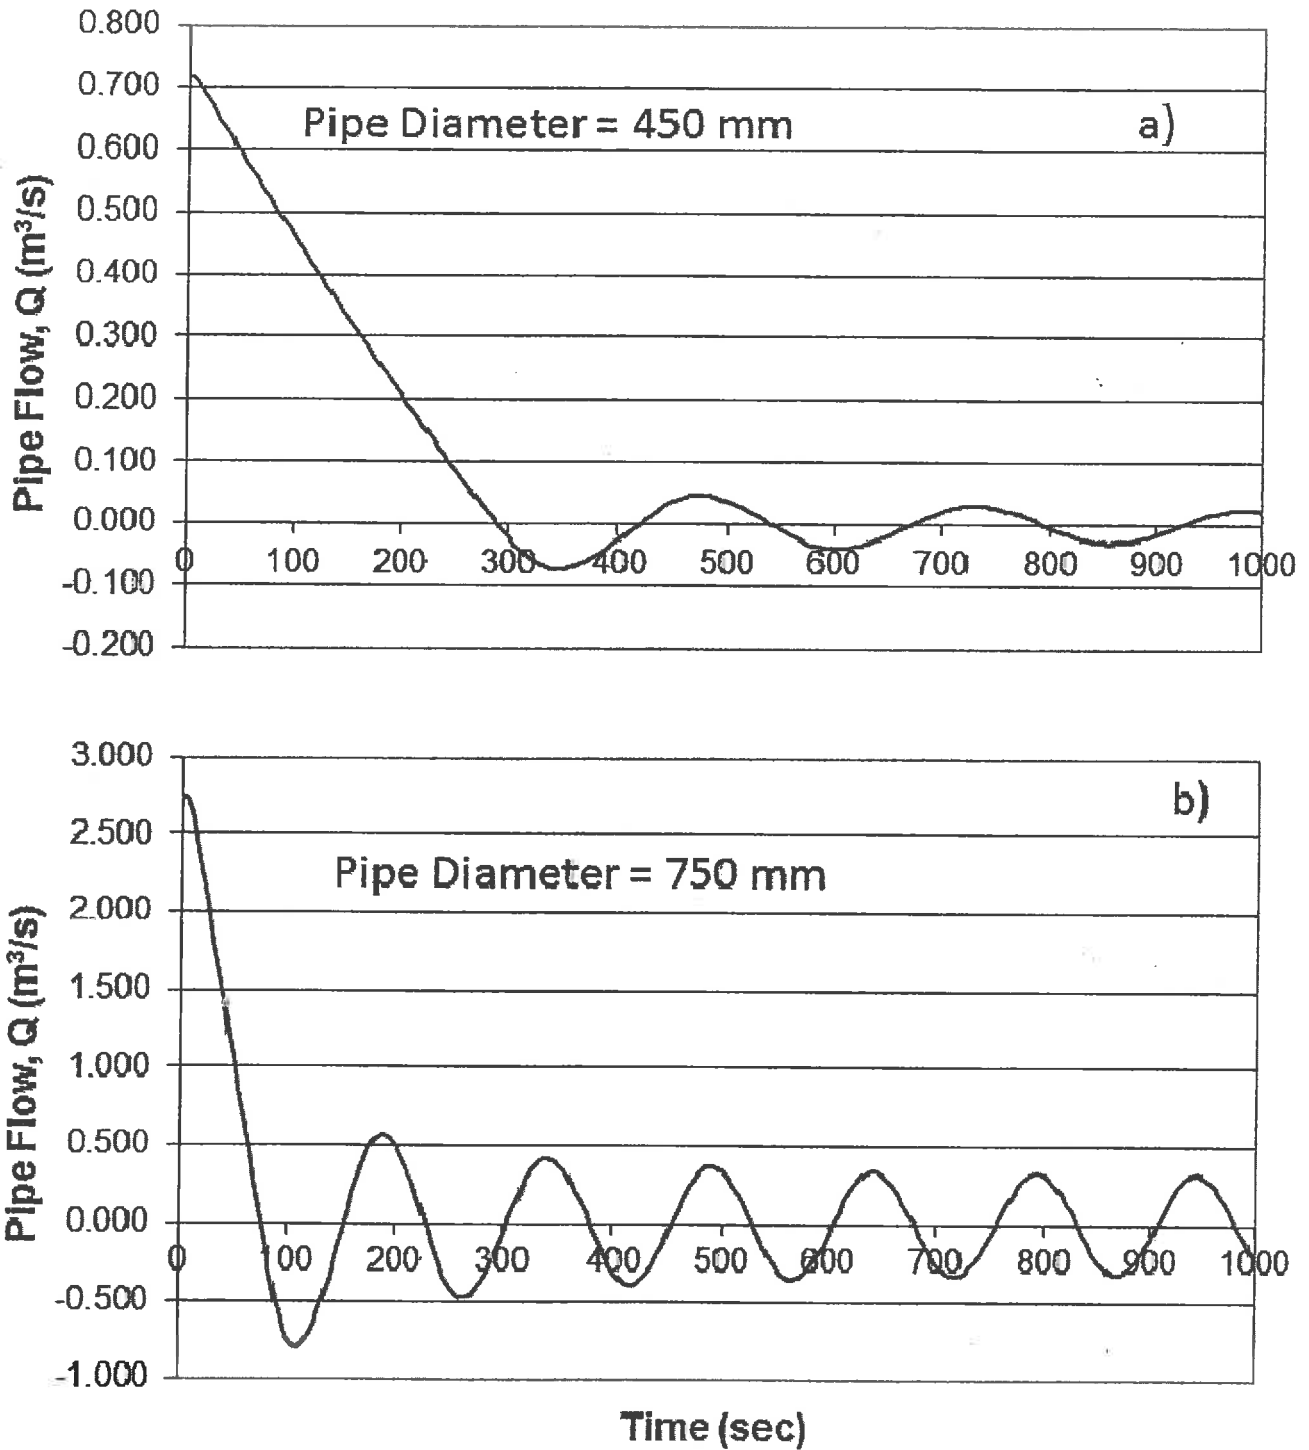

Figure 4a-b: Time series of flow in a) 450 mm pipe, and b) 750 mm pipe for the first 1,000 sec of the simulation.
- c) The plots in Figure 4a-b shows the system response when the pipe has a diameter of 450 mm (Figure 4a) and when the pipe diameter is increased to a 750 mm diameter (Figure 4b). Explain the difference between these two responses. Base your explanation on the physical meaning of the mathematical terms in the rigid water column model.